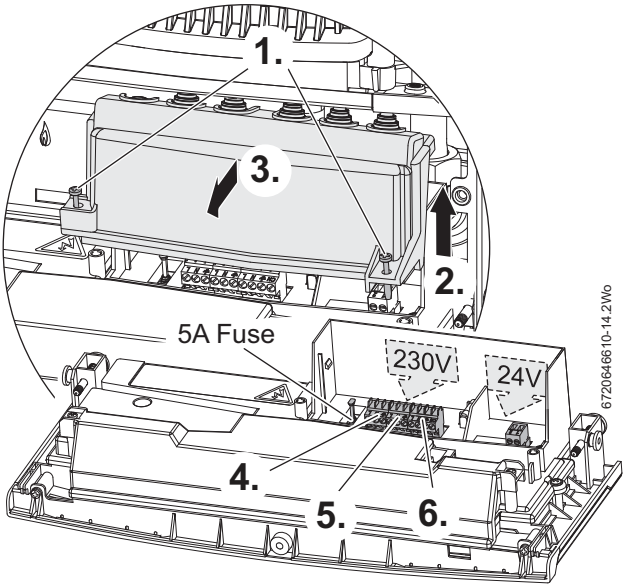

Fig. 36 Removing the installer access cover
1. Refer to fig. 36 and remove the screws in the installer access cover.